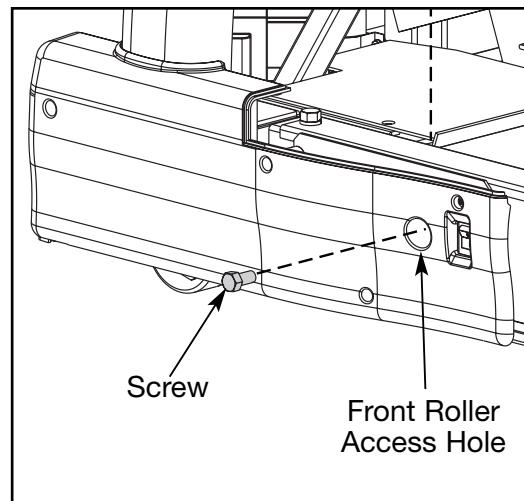

Figure 9
B. Place a 9/16" socket wrench with a 3" extension in the right front roller access hole. Loosen but do not remove the right front roller screw. See Figure 9. **NOTE:** The right screw will stay on the front roller. You do not need to remove it for this procedure.
C. Place a 9/16" socket wrench with a 3" extension in the left front roller access hole. Remove the left front roller screw. See Figure 9. **NOTE:** Leave the front roller in place until step 9C.
B. Using a 9/16" socket wrench with a 3" extension, insert the two screws that fasten the front roller to the frame. **NOTE:** Tighten each of the two screws evenly, making sure not to tighten one screw too many turns before moving to the other screw. See Figure 9.